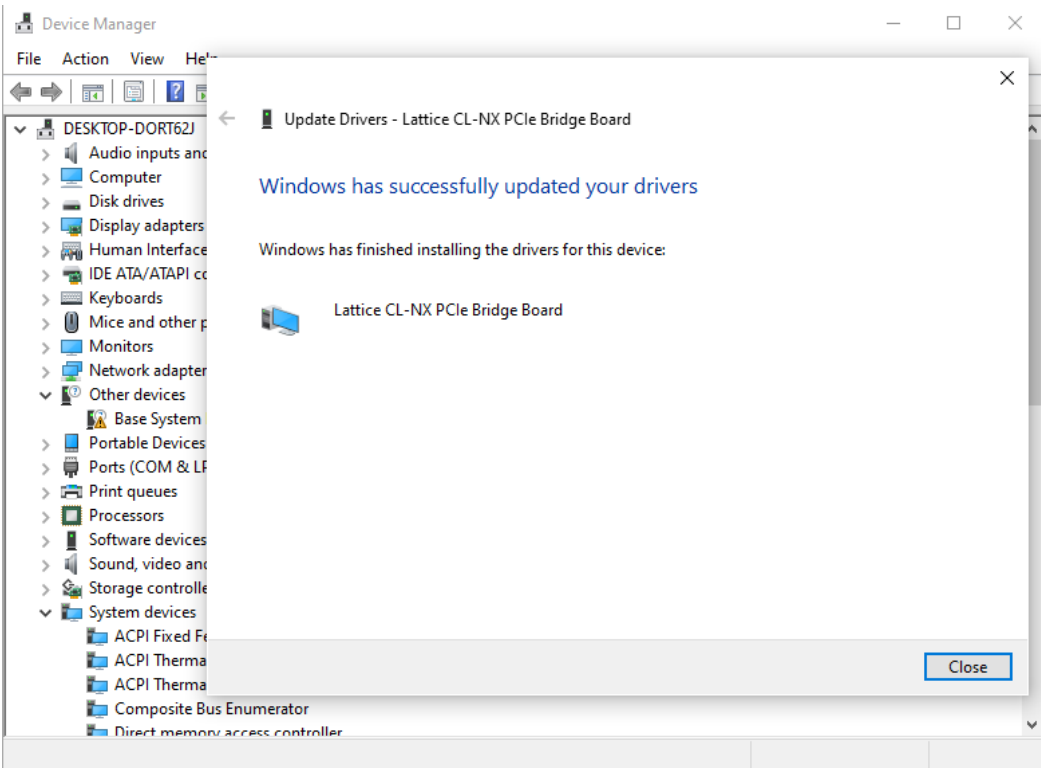
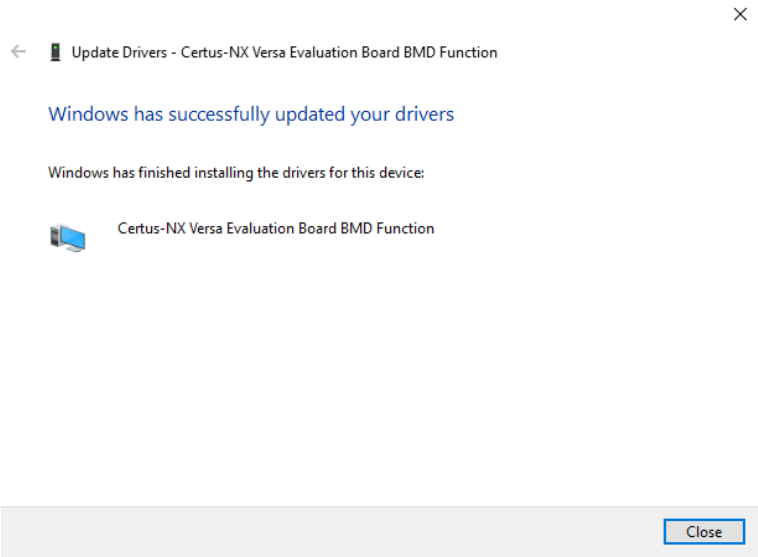
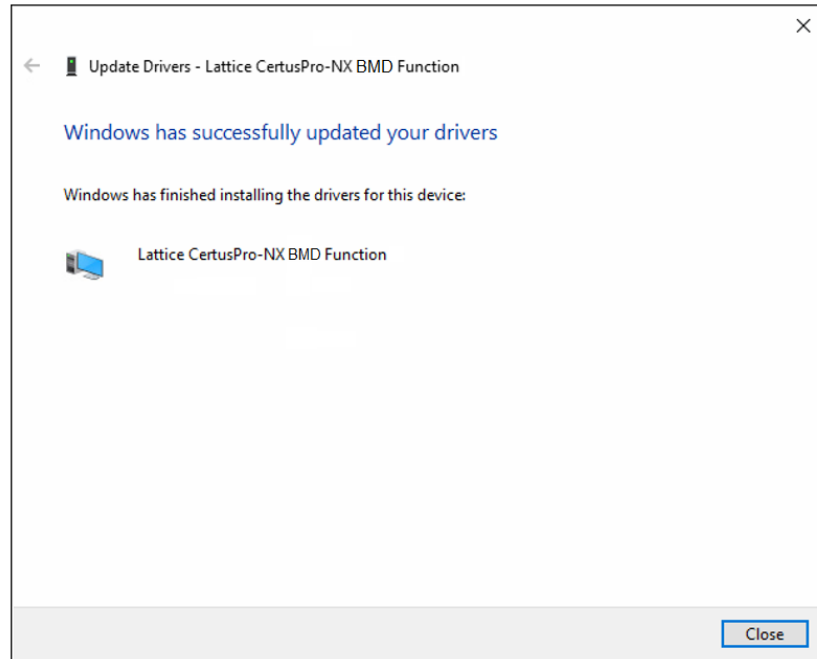

Figure 3.40. CrossLink-NX Driver Installation Status Message
Figure 3.41. Certus-NX Driver Installation Status Message
Figure 3.42. CertusPro-NX Driver Installation Status Message
8. If the driver is installed successfully, a message is displayed as shown in Figure 3.40 for CrossLink-NX family and Figure 3.41 for Certus-NX family and Figure 3.42 for CertusPro-NX family.